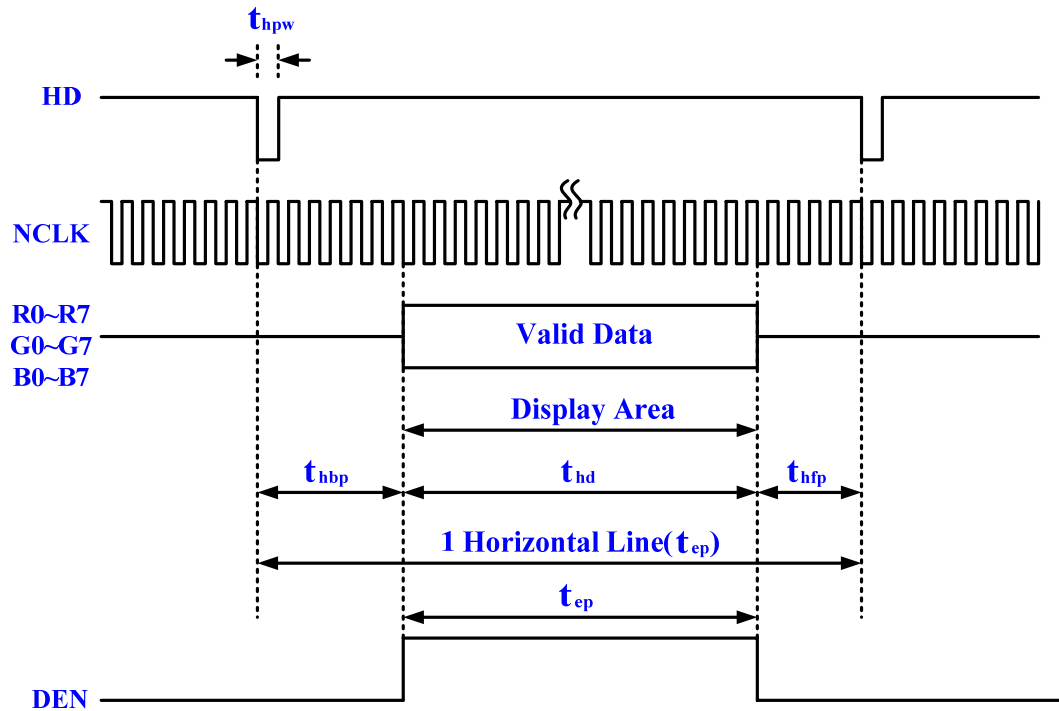

Figure 3.3 LCD horizontal timing specification
Figure 3.3 illustrates the basic timing requirements for each row (horizontal) that is displayed on the LCD panel. An active-low pulse of specific duration (time t_{hpw} in the figure) is applied to the horizontal synchronization (HD) input of the LCD panel, which signifies the end of one row of data and the start of the next. The data (RGB) inputs on the LCD panel are not valid for a time period called the hsync back porch (t_{hbp}) after the hsync pulse occurs, which is followed by the display area (t_{hd}). During the data display area the RGB data drives each pixel in turn across the row being displayed. Also, during the period of the data display area, the data enable signal (DEN) must be driven to logic high. Finally, there is a time period called the hsync front porch (t_{hfp}) where the RGB signals are not valid again before the next hsync pulse can occur.